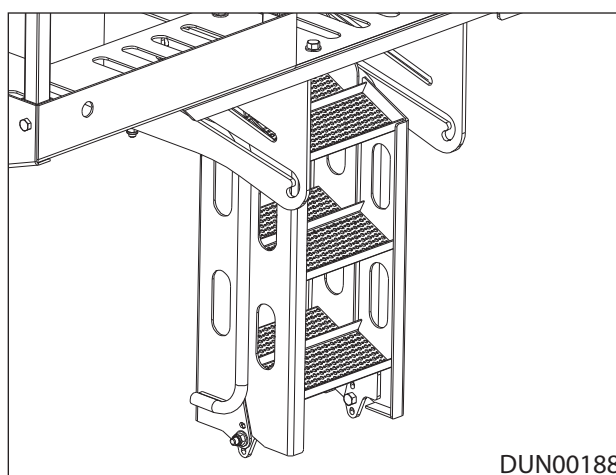

Figure 5.24 - Maintenance Platform Access Steps Folded
10. Rotate the bottom section of the maintenance platform access steps up, Ref: Figure 5.24.
11. Slide the folded maintenance platform access steps back along the cutout in the mounting plate into the transport position, Ref: Figure 5.24.